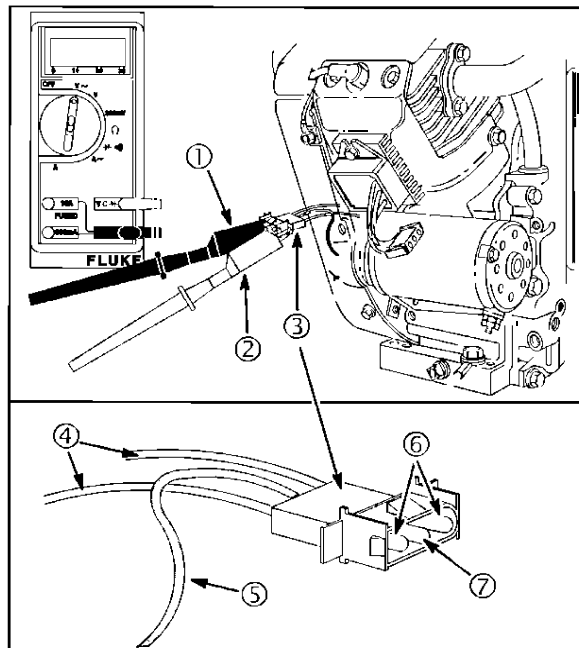

Figure 17
4. Attach RED (2) and BLACK (1) test lead probes to the YELLOW wire (4) AC output terminals (6), of the connector (3), as shown in Figure 17. (Meter test clip leads may be attached to either AC output terminal).
4. Attach RED test lead probe (2) to the RED wire (5) DC output terminal (7), of the connector (Figure 17).
5. Attach BLACK test lead probe (1) to negative battery terminal.